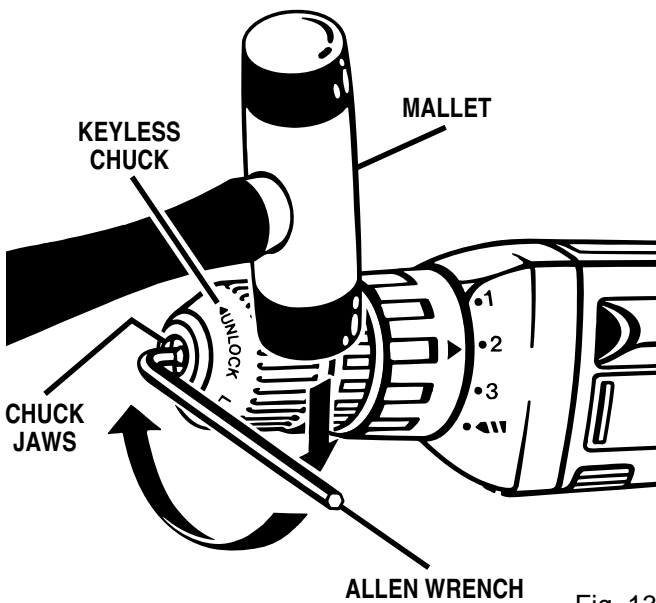

Fig. 13
See Figures 13, 14, and 15.
- Tap the allen wrench sharply with a mallet in a clockwise direction. See Figure 13. This will loosen the screw in the chuck for easy removal.